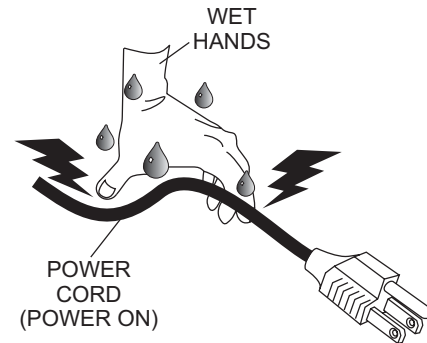

Figure 5. Extension Cord (Wet Hands)
**NEVER!** touch the power cord (Figure 5) with **wet hands** or while **standing in water** when it is connected to a power source. The possibly exists of electrical shock (electrocution) even death. **NEVER!** spray water directly on the electric motor.